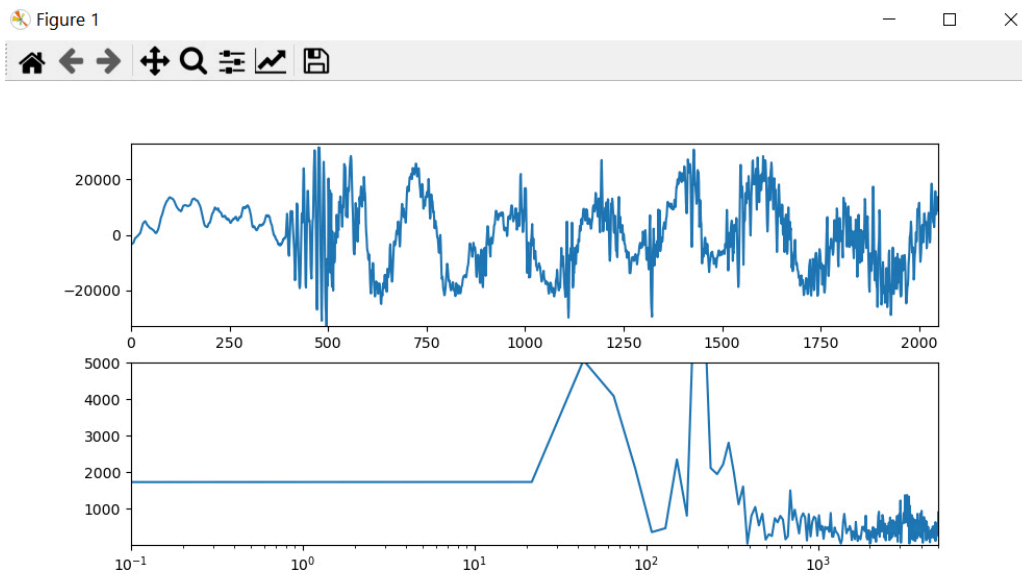

Figure 13-15: A real-time FFT visualization
3. You know now that the frequency content, and hence the FFT of the audio data, changes in sync with the audio. Can you create a real-time visualization like the one shown in **Figure 13-15**, of both the audio data and the FFT as the audio plays through a speaker? This is intended to run on your computer, not your Raspberry Pi.